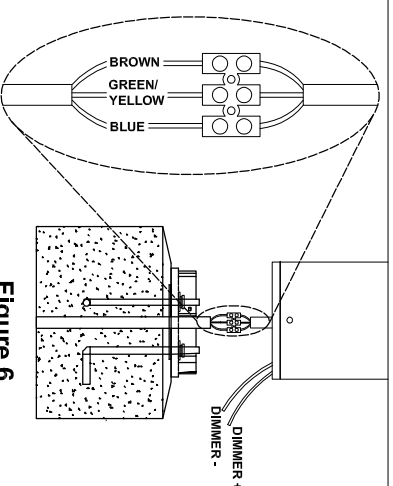

Figure 6
- Figure 6 - Make wiring connections of electrical conduit (supplied by installer) with fixture wiring connections in accordance to National Electric Code guidelines. Use only UL approved wiring connectors (supplied by others) for all wiring connections.